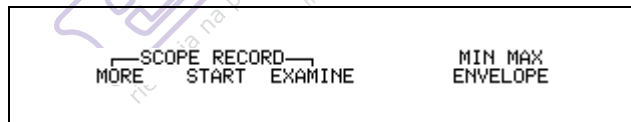

Figure 5-16. Recording Menu
In SCOPE mode, press  to access the waveform recording functions (see Figure 5.16). You can use these functions to examine waveform changes over time.
1. From the Min Max Record menu press (EXAMINE). See Figure 5-16.